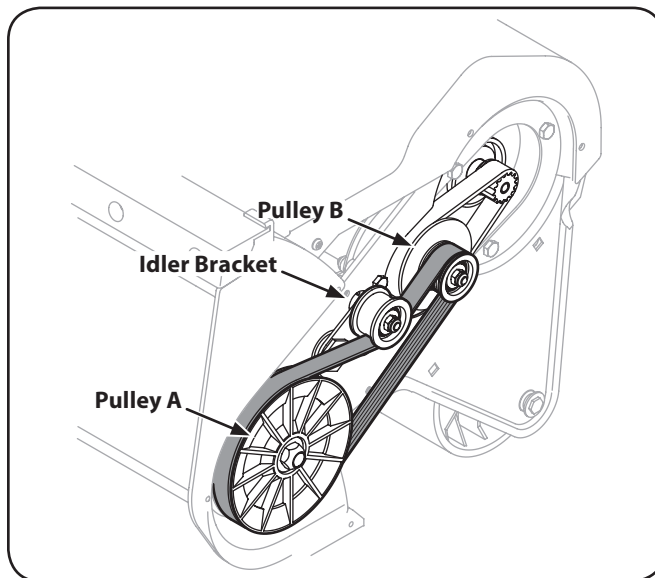

Figure 7-3
2. Pull the idler bracket upward to relieve tension on the belt. See Figure 7-3